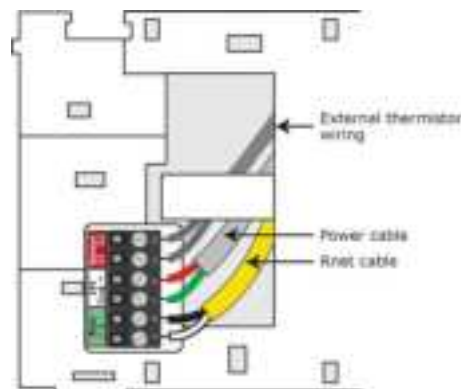

Figure 16
2. Pull the communication cable, power cable, and external thermistor wiring (if applicable) through the large hole in the center of the backplate. See figure 16.
6. Connect wiring to the Control Air M/M+ as shown in Figure 16.